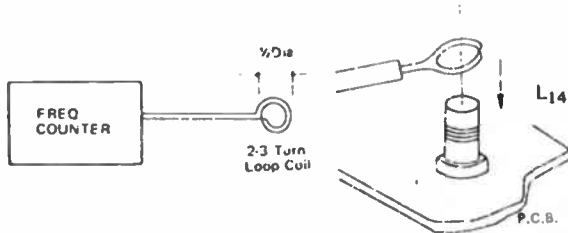

FIGURE 6. VHF LOCAL OSCILLATOR ALIGNMENT
Step 2: Couple the frequency counter thru a pick-up coil to oscillator coil L14 as shown in Figure 6.
Step 2: Couple the frequency counter thru a pick-up coil to oscillator coil T2 as shown in Figure 6.